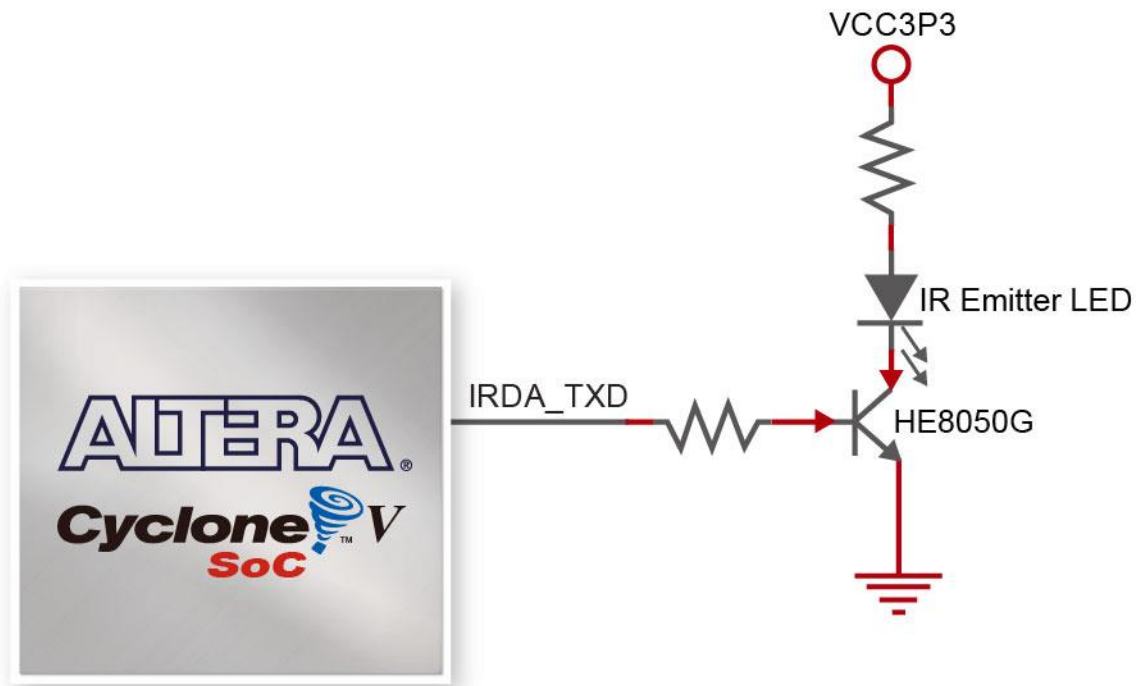

Figure 3-30 Connection between the FPGA and IR emitter LED
**Figure 3-30** shows the connection of IR emitter LED to the FPGA. **Table 3-20** shows the pin assignment of IR emitter LED to the FPGA.